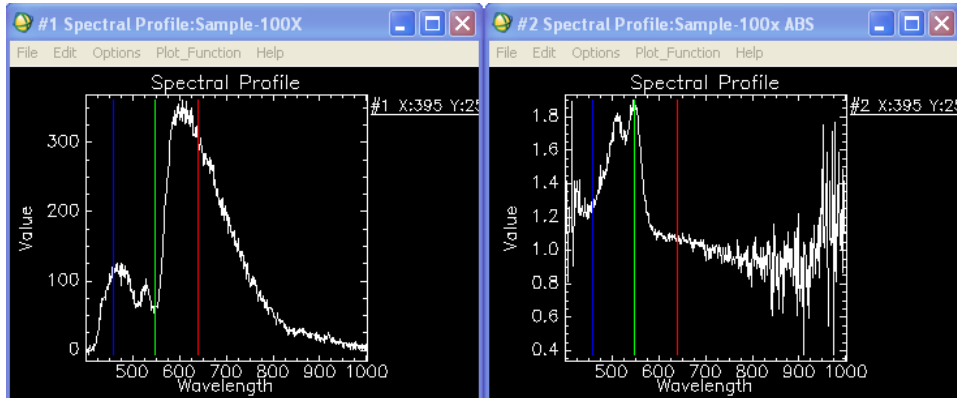

Figure 4. Original Image Spectra (left) and converted Absorption Image Spectra (right)
10. The spectrum of the original sample, at the cross-hair and the absorption spectrum, at the cross-hair of the converted image (see Figure 4).